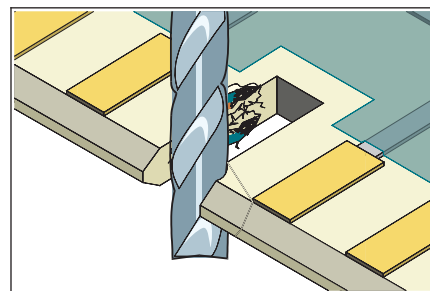

Figure 1 Mill out damaged area using a carbide end mill.
2. Mill out the damaged area using a milling machine or precision drill system and carbide end mill. (See Figure 1.)